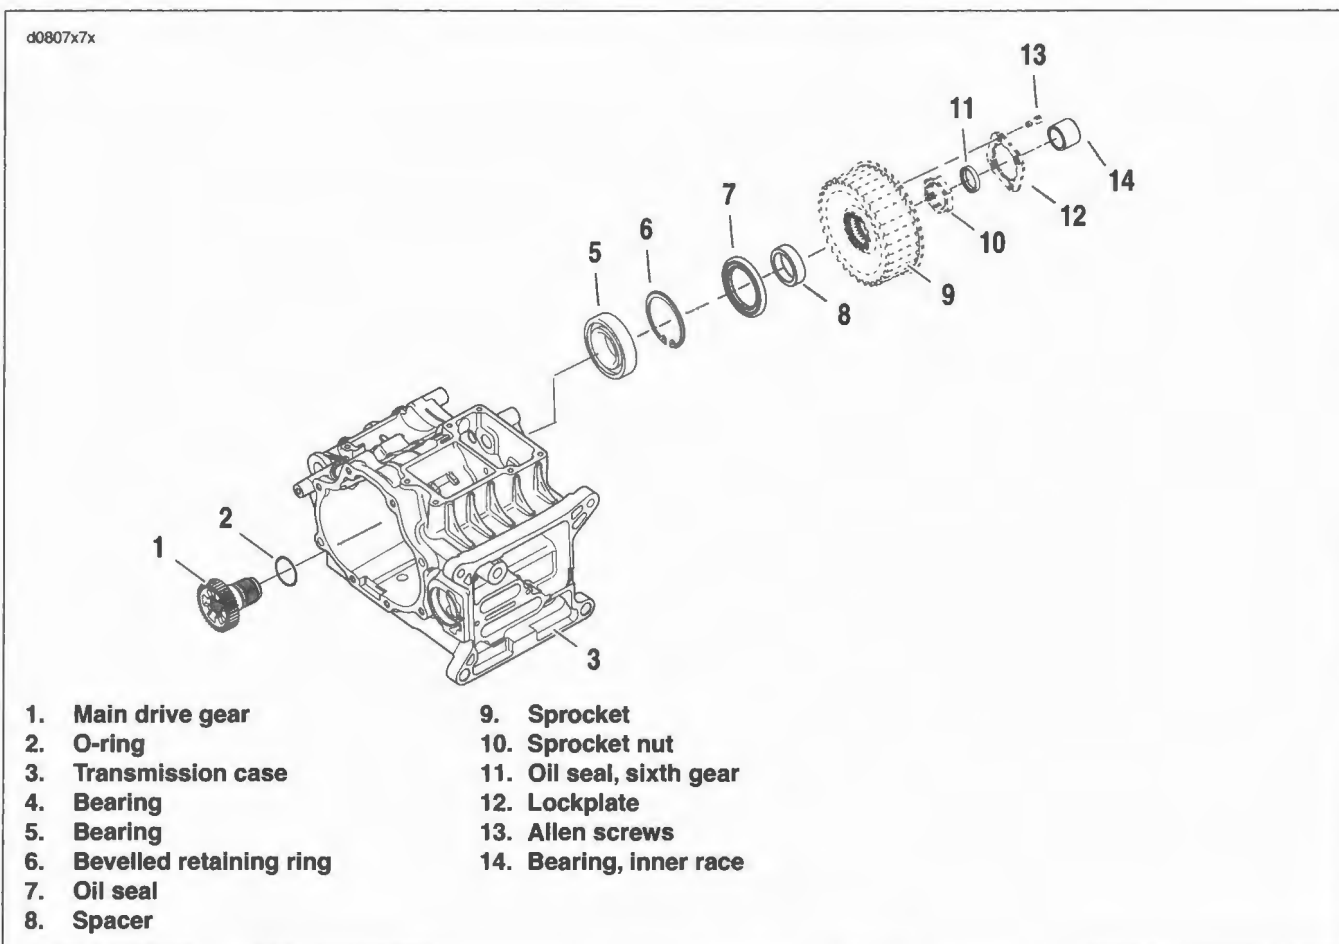

Figure 7-34. Sprocket and Main Drive Gear
- See Figure 7-34. Remove retaining ring (6).